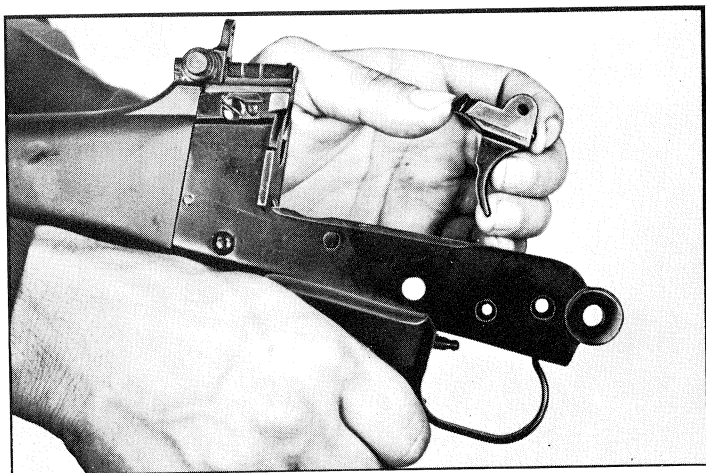

Fig.100
d). **Trigger.** — Remove trigger releasing it from the trigger spring plunger (fig. 100).